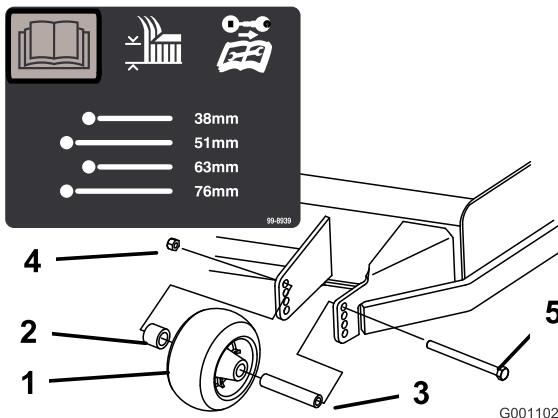
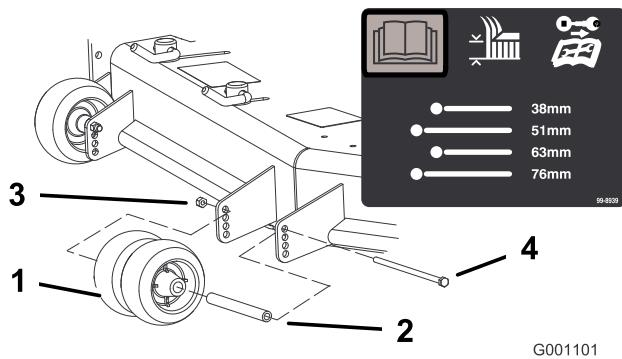
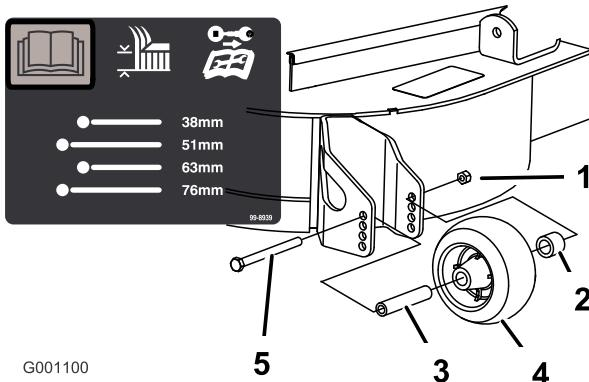

Figure 20
Figure 21
Figure 22
3. After adjusting the height of cut, adjust the rollers by removing the flange nut, bushing, spacer, and bolt (Figure 20, Figure 21, and Figure 22).
Note: The 2 middle rollers do not have a spacer (Figure 21).
5. Install the flange nut bushing, spacer, and bolt. Torque the bolt to 54 to 61 N·m (40 to 45 ft-lb) (Figure 20, Figure 21, and Figure 22).